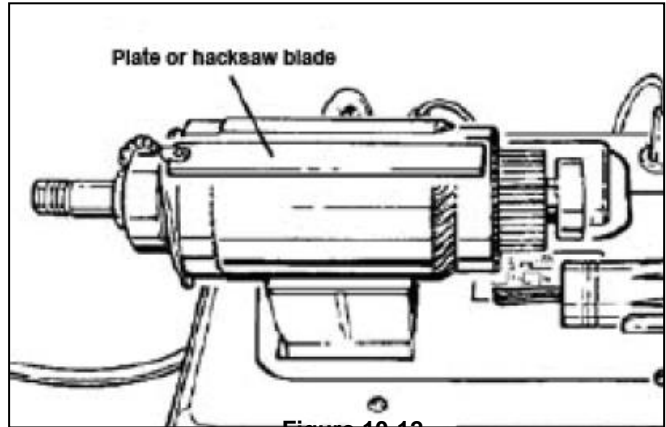

Figure 10-12
2. For short circuit connection, use a hacksaw blade to locate any shorted windings. Rotate armature slowly in growler jaws and hold a hacksaw blade in parallel against top of armature. The steel blade will be attracted to the core and will vibrate when two shorted armature coils are located. See Figure 10-12.